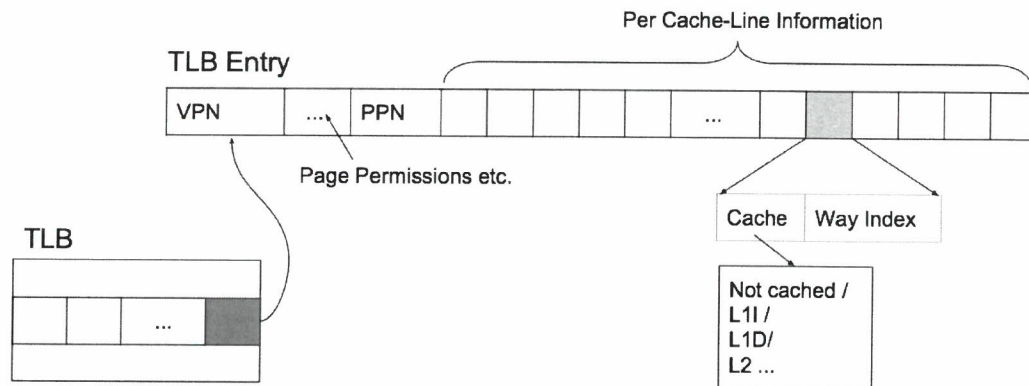

Figure 1: D2D lookup mechanism via the TLB.
- (b) Discuss correctness- and performance-related challenges of implementing D2D in real systems. E.g., give a scenario that could cause a problem if the system only had the mechanism presented in Figure 1.